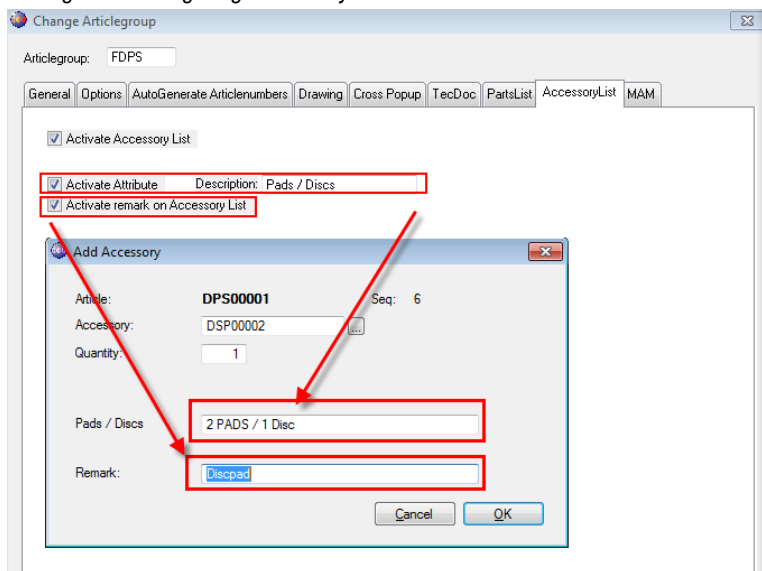

Figure 9: configuring Accessory List
- **Activate Attribute:** by checking this checkbox a text field is activated where additional information can be stored. Also see *Figure 9: configuring Accessory List*
- **Activate Remark:** by checking this checkbox a text field is activated where additional remarks can be stored. Also see the *Figure 9: configuring Accessory List*